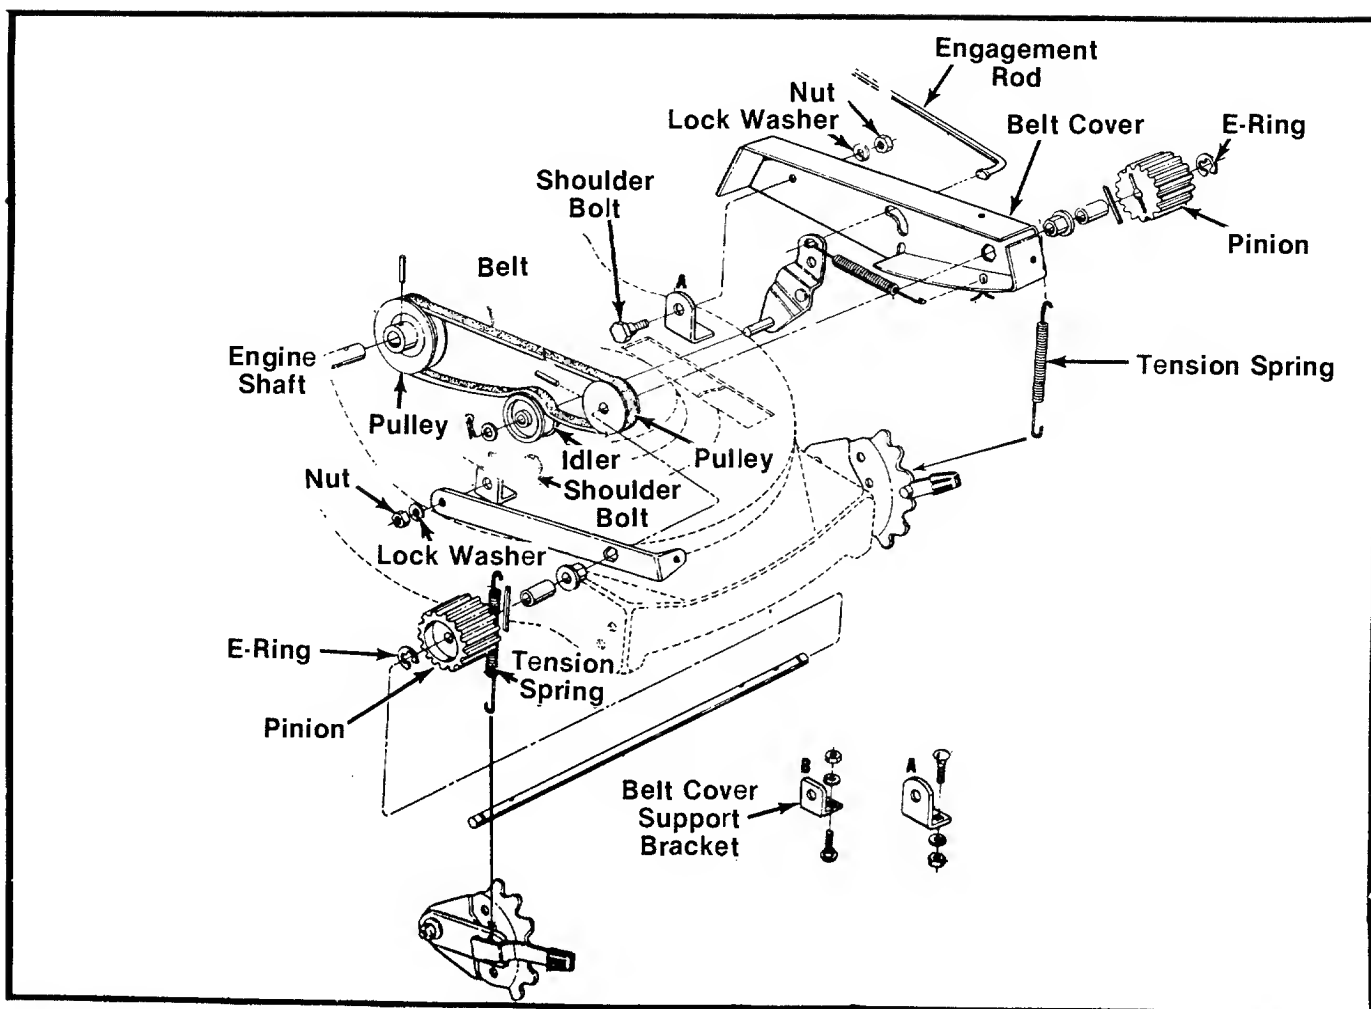

FIGURE 26.
2. Remove both tension springs. See figure 26.